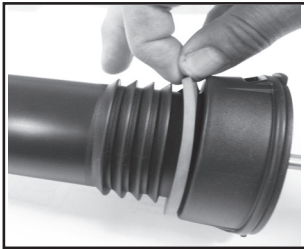

Figure 6
1. Inspect gasket. If worn or damaged, remove and replace. **(See Figure 6)**